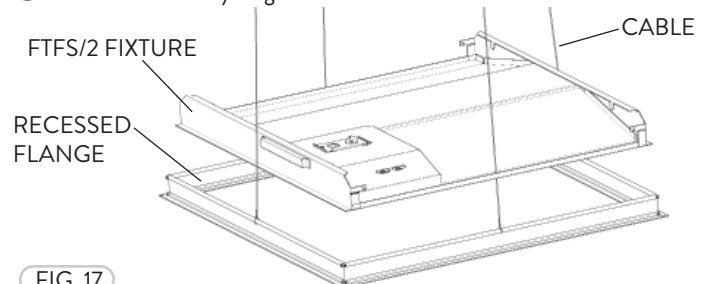

FIG. 17
- 4 Carefully mount the FTFS/2 into the Recessed Frame and adjust any Cables if necessary (Fig. 17).